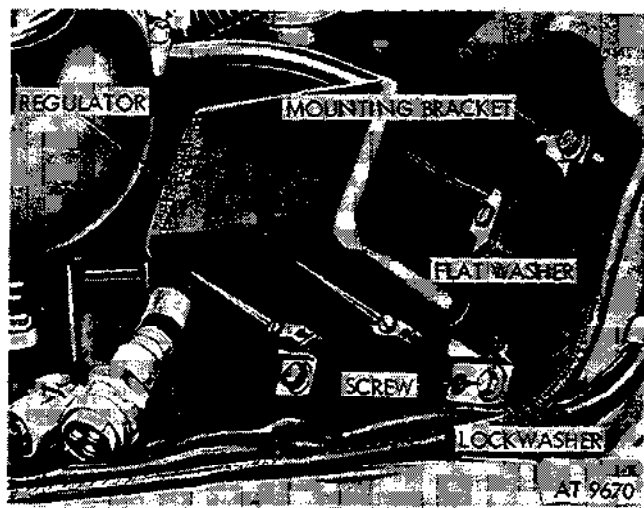

Figure 2-177. Remove generator regulator with mounting brackets attached.
(4) Remove four mounting screws, lock-washers and flat washers and remove generator regulator with mounting brackets attached (fig. 2-177).
b. Installation. Install generator regulator by reversing removal operation figure 2-177 back to 2-175.